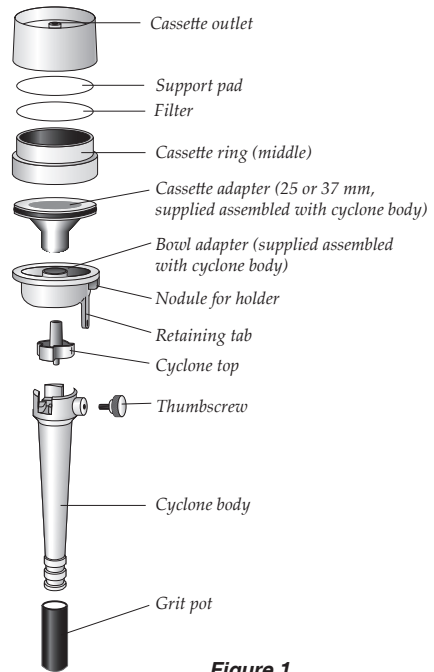

Figure 1.
Assembling Cyclone with Cassette (Figure 1)
1. Prepare a cyclone/cassette assembly (Figure 1). Ensure grit pot remains on cyclone body during calibration.